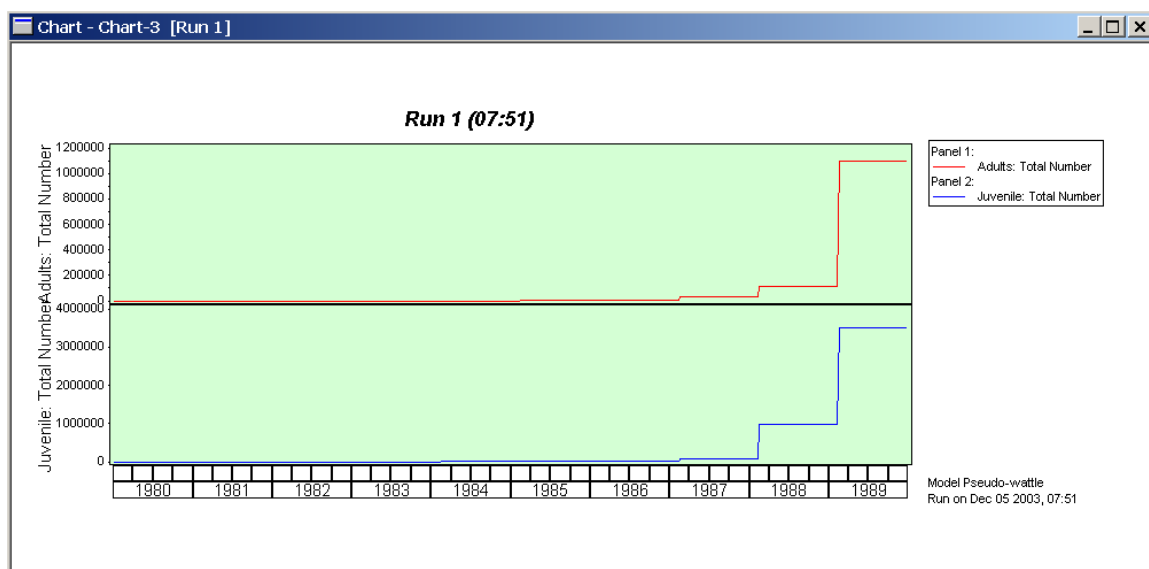

Figure 1.23 Pseudo-wattle Chart Output
10. Select '**OK**' and the chart will now be displayed. It should be similar to Figure 1.23.
The chart very clearly shows how each chart can be used to display the output data. Frequently, as happens in Figure 1.23, totals are so large that only the final year's scores are displayed on natural number charts. Logarithmic charts are able to show the steady increase in population numbers much more clearly and the method of producing these is demonstrated in section 1.6.3.